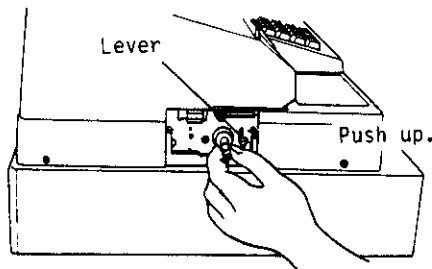

Fig. 3
4. Insert a new Ink Roll into the hole, push it all the way in, and push up the lever (Fig. 3).
CDC (Cash Drawer Cover) LOCK (Fig. 3)